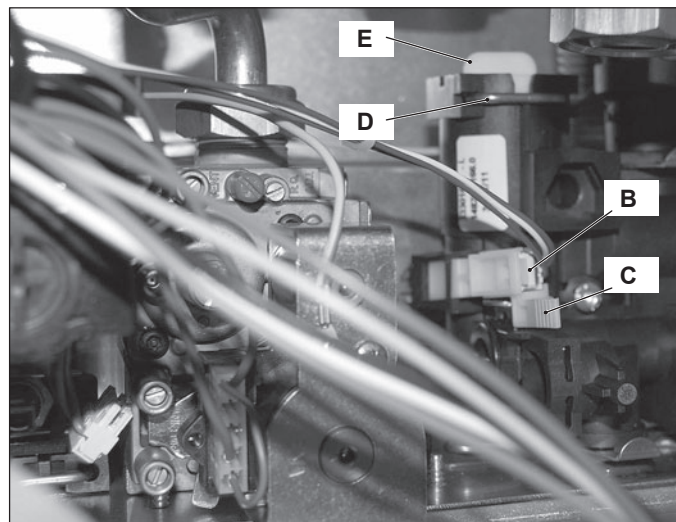

Figure 14.3
- 2 Disconnect the connectors B and remove the sensor holder C (Figure 14.3).
- 2 Remove the fork D and pull up the flow switch plug E (Figure 14.3) with the help of a screwdriver.